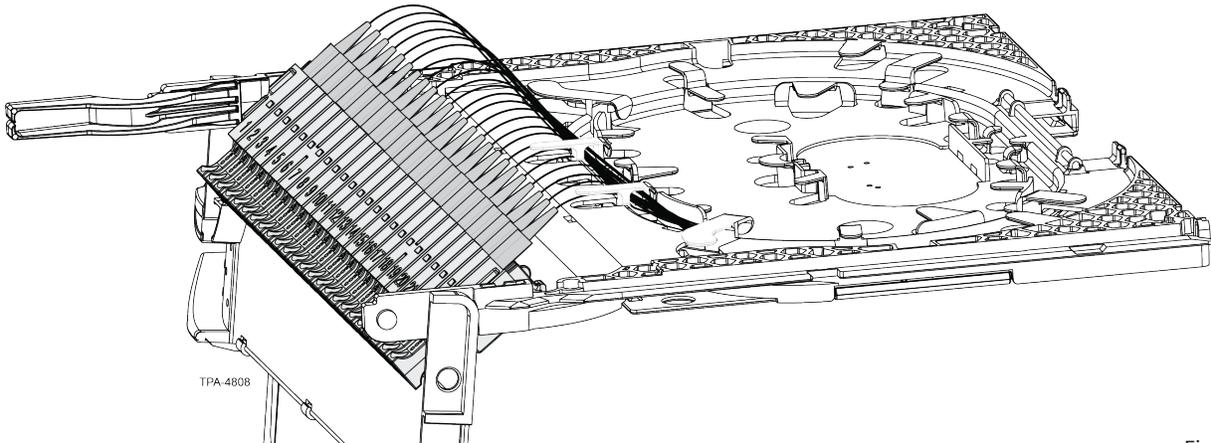

Figure 67
**Step 4:** Press down on the front of the adapter panel to tilt the panel down (Figure 67), allowing better access to the pigtail connectors in the rear of the adapter panel.